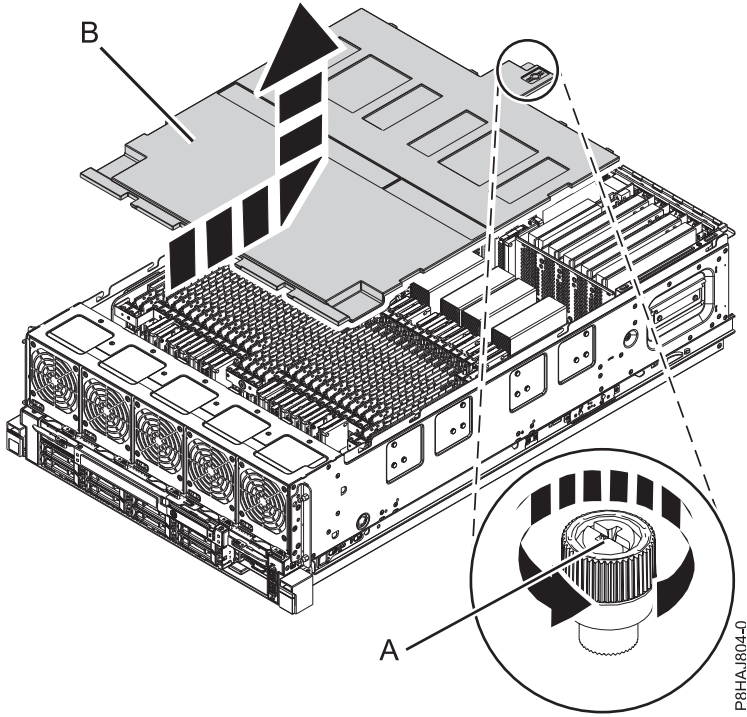

Figure 10. Removing the safety cover
2. Loosen the thumbscrew (A) located at the rear of the cover, by turning it in the direction shown in Figure 10 on page 28.
3. Slide the safety cover (B) toward the rear of the system. When the front of the cover has cleared the upper frame ledge, lift the cover up and off the system.